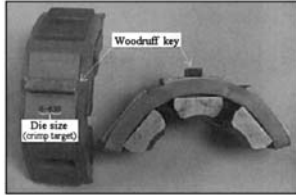

Fig. 3 – Dies with woodruff keys in place.
2. Select the proper size dies. Check all segments to make sure that all of the segments have the same numbers on the back. Each segment will be marked identifying the hose size and crimp diameter. Example: 5/16 ID hose with a .556 diameter crimp will be marked "556" (Refer to Fig. 3).